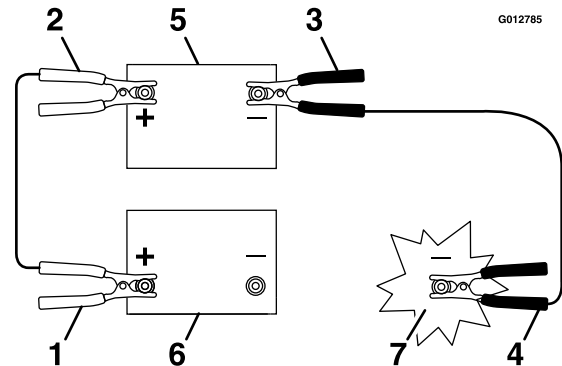

Figure 48
3. Connect the positive (+) cable to the positive (+) terminal of the discharged battery that is wired to the starter or solenoid (Figure 48).